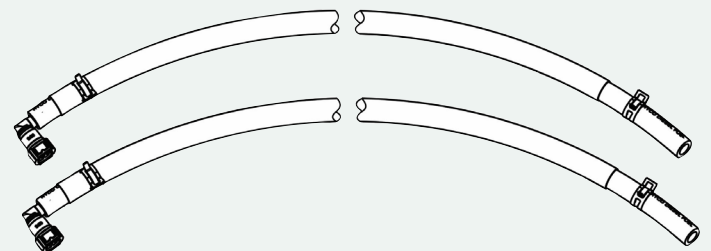

FIGURE 4
- 4 Install two supplied elbow connectors onto one end of both supplied fuel hoses and install four supplied fuel hose clamps onto both ends of fuel hoses, as per Fig. 4. Do not tighten fuel hose clamps yet.